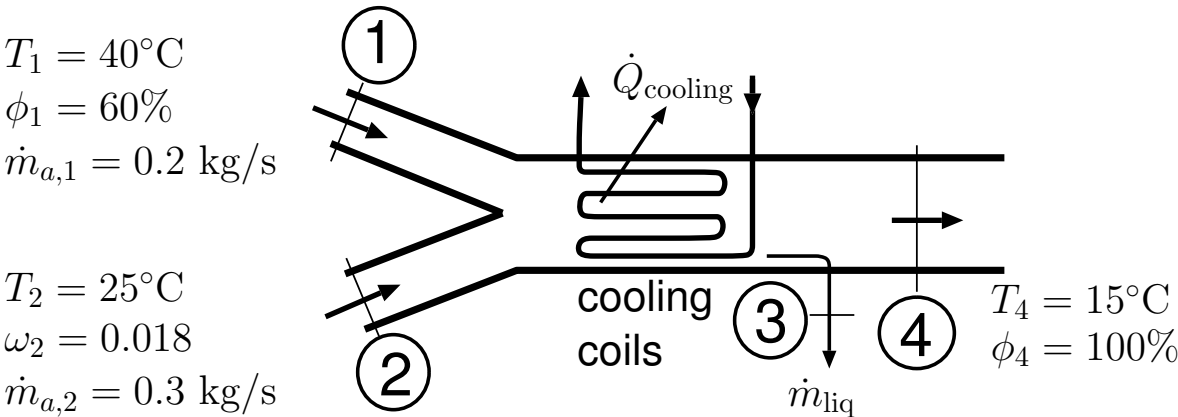

Figure 5: Figure for problem 5
5. As a first stage of an overall dehumidification system, two air streams (State 1 and State 2) are mixed adiabatically at constant pressure, $P = 100 \text{ kPa}$, and the combined flow passes through a cooling/dehumidifying section. As shown in Figure 5, stream 1 enters the mixing section with mass flow rate $\dot{m}_{a,1} = 0.2 \text{ kg/s}$ (dry air), temperature $T_1 = 40^\circ\text{C}$ and relative humidity $\phi_1 = 60\%$. Stream 2 enters the mixing section with mass flow rate $\dot{m}_{a,2} = 0.3 \text{ kg/s}$ (dry air), temperature $T_2 = 25^\circ\text{C}$ and humidity ratio $\omega_2 = 0.018 \text{ (kg water vapour per kg dry air)}$. Assume the two inlet streams are fully mixed by the time they reach the cooling/dehumidifying section, and also assume the total pressure remains constant at $P = 100 \text{ kPa}$. The air stream exiting at State 4 has a temperature of $T_4 = 15^\circ\text{C}$ and relative humidity $\phi_4 = 100\%$. Below the cooling coils, condensate (liquid water) is allowed to flow out of the duct (State 3) and has mass flow rate \dot{m}_{liq} and a temperature equal to that of T_4 (i.e., $T_3 = T_4$). For the combined mixing and cooling/dehumidifying sections, assume steady-state steady-flow conditions, and neglect changes in kinetic and potential energies.